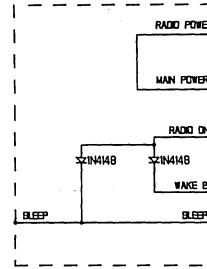

Fig. 16a RADIO SWITCHING BY BIAS CHANGE
- Option 1 (Fig.16A, 16B) Direct audio amplifier control (no active components)